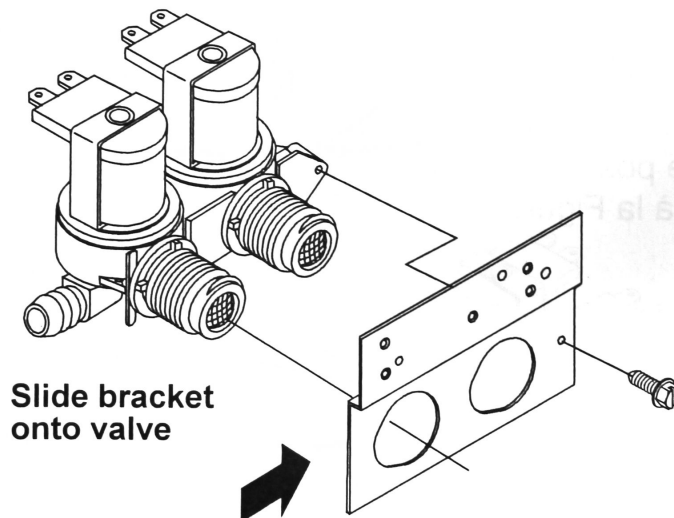

Figure 1
2. If the valve in this kit is not a direct replacement for the failed valve, you must install the mounting bracket (included with kit) onto the new replacement valve, using screw provided prior to installing the new service valve on your washing machine. See Figure 1.